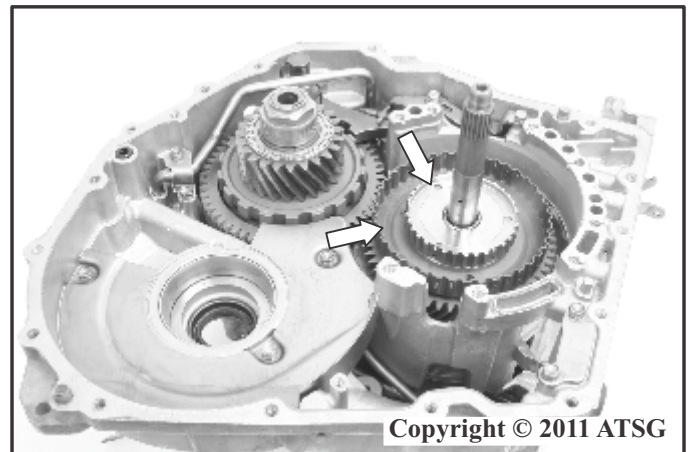

Figure 36
41. Remove the 2nd coast clutch hub outer race and the 2nd coast clutch hub as shown in Figure 36.